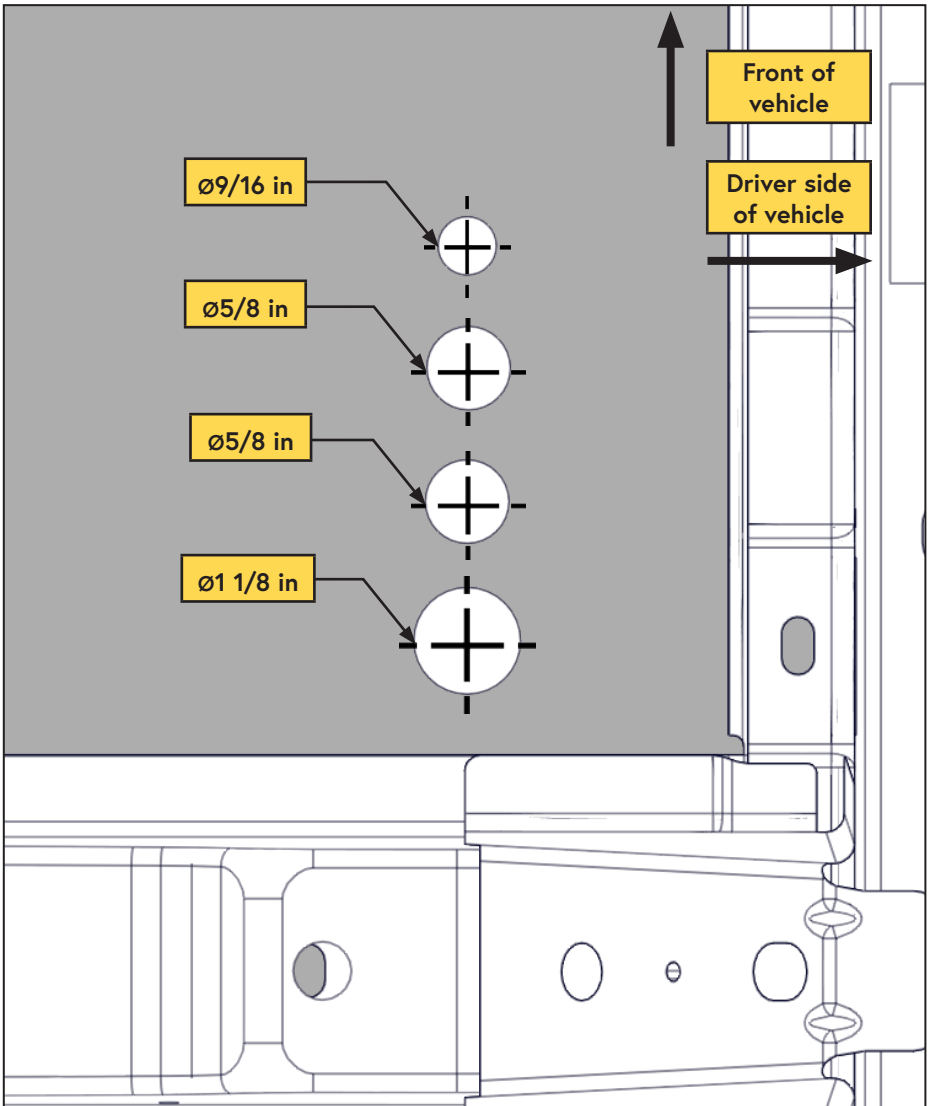
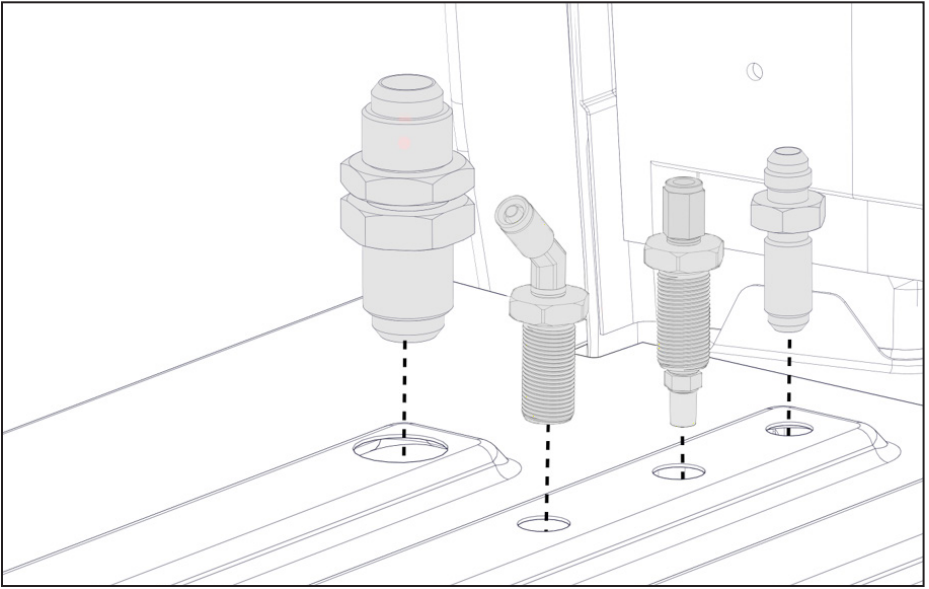
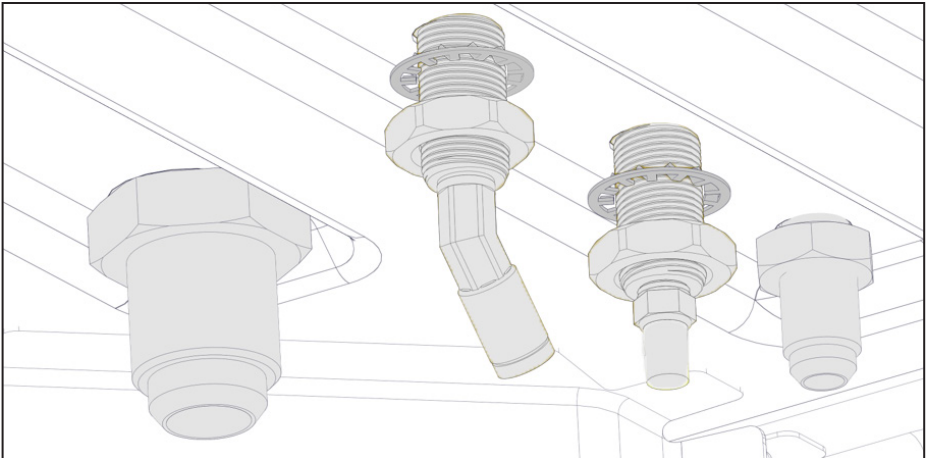

Figure 36 — Vehicle Chassis bottom view
Figure 37 — Interior view
Figure 38 — Exterior View
- Drill the bulkhead fitting holes using a drill, step drill or hole saw. Leave enough room between the fittings to allow access for a wrench (Figure 36, Figure 37, Figure 38).
- Fit the bulkhead fittings through the top of the hole and secure from the bottom with the supplied nuts. Apply Loctite 567 (thread sealant) when installing the 1/4 in push-to-connect fittings in the bulkhead fittings (Figure 37, Figure 38).